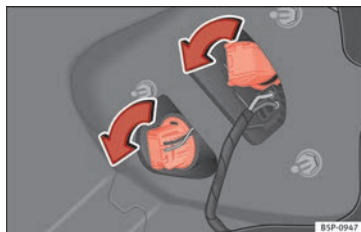

Fig. 190 Lights on the vehicle body.
- Turn the bulb holder to the left » **Fig. 190.**